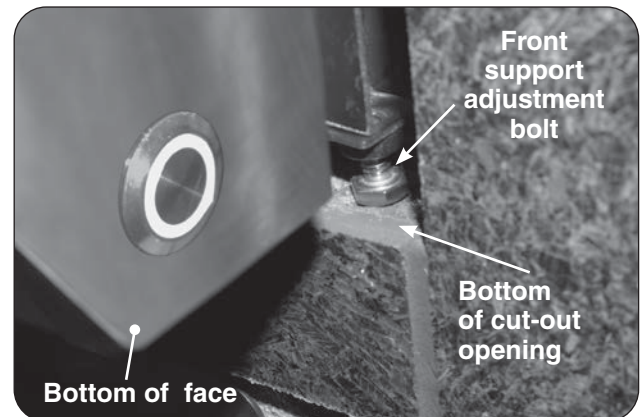

Fig. 21-3 Front support adjustment bolts
This outdoor built-in grill must be supported by the stainless-steel hanger extending from the upper portion of the grill. The hanger rests on the left, right, and back of the countertop and on the two front support adjustment bolts located below the control panel on the left and right sides (see Fig. 21-3).
2. Rotate the front support adjustment bolts to the left to raise and to the right to lower the respective side of the appliance. Use a  $\frac{7}{16}$ " open-end wrench as needed. See Fig. 21-3.